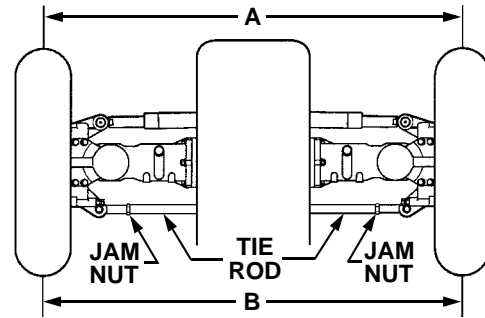

Figure 40
- Measure and record the distance 'A' between the two front marks. Then measure and record the distance 'B' between the two rear marks. See Figure 40.
- Loosen the jam nuts at both ends of the tie rod. Refer to Figure 40.